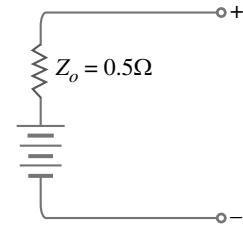

Fig. 15.5
**Solution.** All practical power supplies always have some internal impedance (often called output impedance) which is denoted by  $Z_o$  as shown in Fig. 15.5. It is given by the ratio of change in load voltage to the corresponding change in load current i.e.